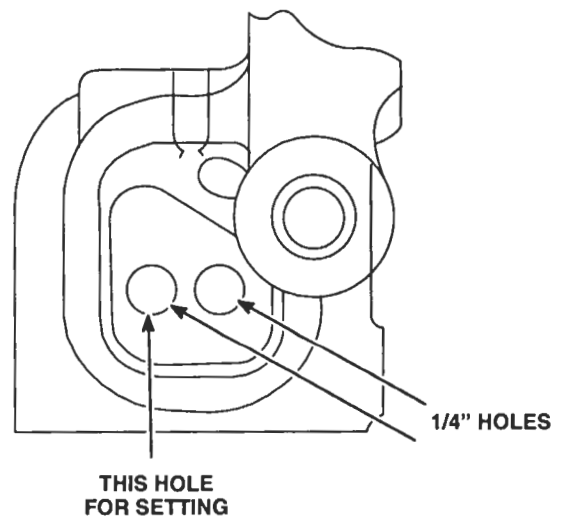

Figure 6. Throttle Delay with Multiple Fill Holes
5. Insert pin gage J 25558 with the "go" (green .069 inch) end in the cylinder fill hole. If the throttle delay housing has multiple holes, use the hole shown in Figure 6.